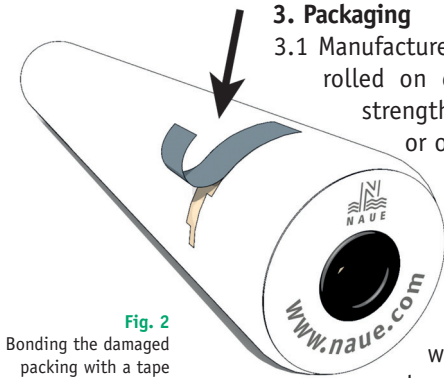

Fig. 2 Bonding the damaged packing with a tape
3.3 In the unlikely case of a damage to the wrapping, the damaged area is either fixed with tape (fig. 2) or is fully replaced.
8.6 In the unlikely case of damage to the wrapping, the damaged area is either fixed with tape (fig. 2) or is fully replaced.